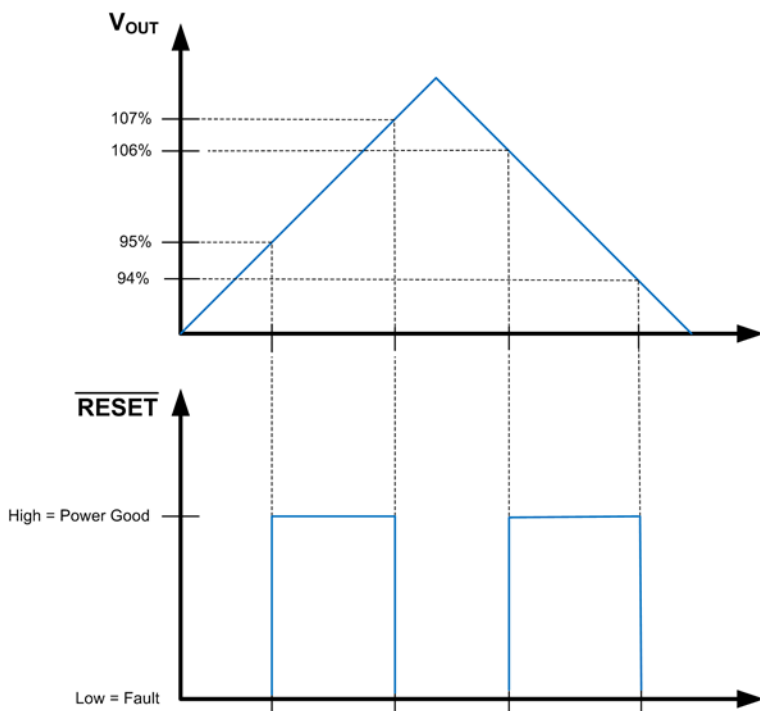
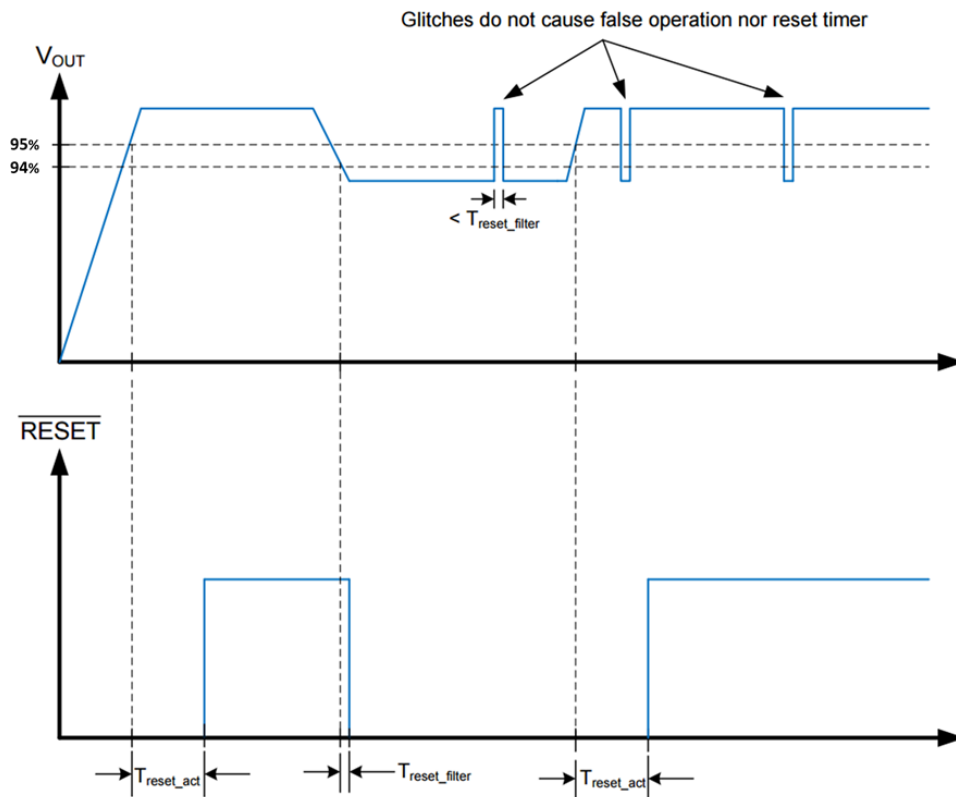
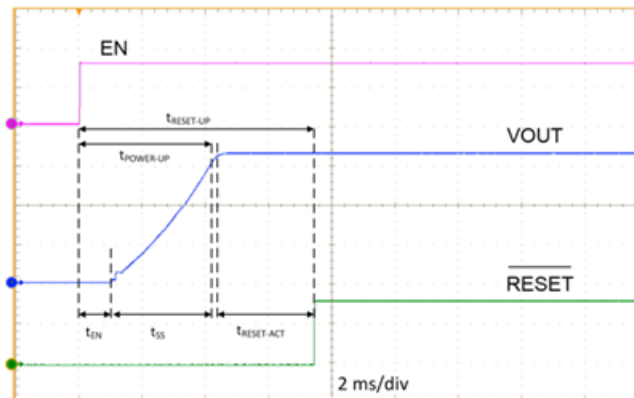

Figure 10. Static RESET Operation
Figure 11. RESET Timing Behavior
Figure 12. Typical Start-up Waveform
The $\overline{\text{RESET}}$ function, built into the LM53625/35-Q1, has special features not found in the ordinary Power-Good function. A glitch filter prevents false flag operation for short excursions in the output voltage, such as during line and load transients. Furthermore, there is a delay between the point at which the output voltage is within specified limits and the flag asserts Power Good. Because the $\overline{\text{RESET}}$ comparator and the regulation loop share the same reference, the thresholds track with the output voltage. This allows the LM53625/35-Q1 to be specified with a 96.5% maximum threshold, while at the same time specifying a 94 % worst case threshold with respect to the actual output voltage for that device. This allows tighter tolerance than is possible with an external supervisor device. The net result is a more accurate Power-Good function while expanding the system allowance for transients, and so forth. $\overline{\text{RESET}}$ operation can best be understood by reference to Figure 10 and Figure 11. The values for the various filter and delay times can be found in Timing Characteristics. Output voltage excursions lasting less than $T_{\text{RESET-filter}}$ do not trip $\overline{\text{RESET}}$. Once the output voltage is within the prescribed limits, a delay of $T_{\text{RESET-act}}$ is imposed before $\overline{\text{RESET}}$ goes high.
- A delay has been added for release of reset. See Figure 11 and Figure 12 for more detail.
Start-up and shutdown of the LM53625/35-Q1 are controlled by the EN input. Applying a voltage of ≥ 2 V activates the device, while a voltage of ≤ 0.8 V is required to shut it down. The EN input may also be connected directly to the input voltage supply. This input must not be left floating. The LM53625/35-Q1 utilizes a reference-based soft start that prevents output voltage overshoots and large inrush currents as the regulator is starting up. A typical start-up waveform is shown in Figure 12 along with timing definitions.
The waveforms shown in Figure 12 indicate the sequence and timing between the enable input and the output voltage and $\overline{\text{RESET}}$. From the figure we can define several different start-up times depending on what is relevant to the application. Table 3 lists some definitions and typical values for the timings.